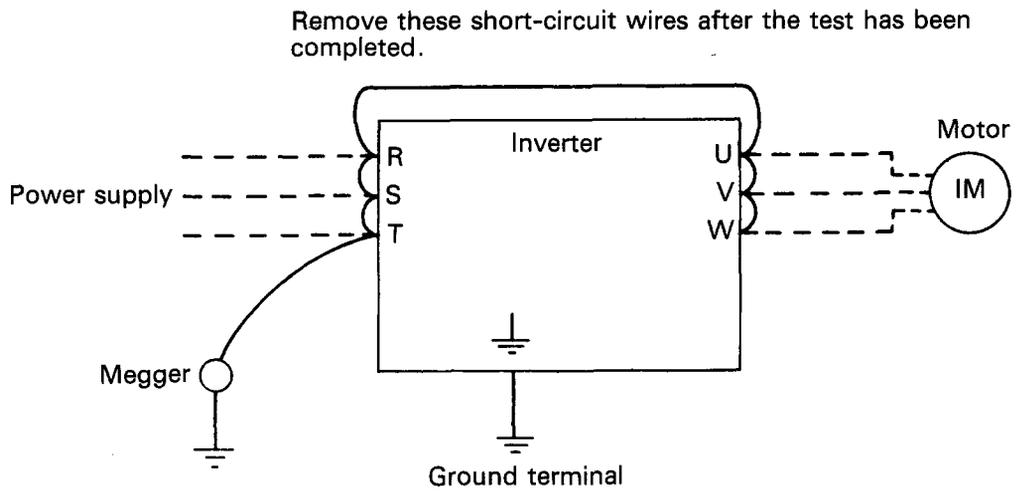

Fig. 7-1 Insulation resistance test with megger
- (3) Insulation resistance test with megger
- (b) Conduct the insulation resistance test on the inverter main circuit only, as shown in Fig. 7-1.